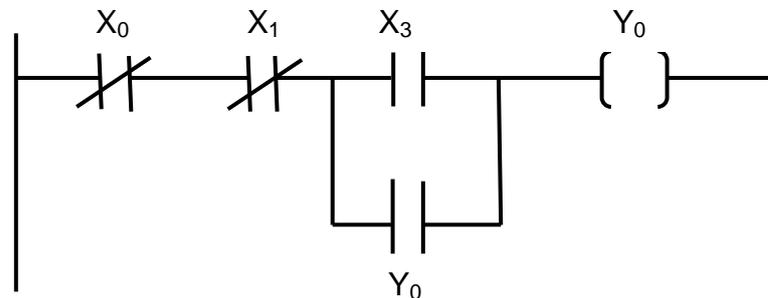

FIGURE 9.2: LADDER LOGIC DIAGRAM
9.5 FIGURE 9.2 below represents a ladder logic diagram.
- 9.5.2 Draw the relay control circuit that represents the ladder diagram in FIGURE 9.2. (6)